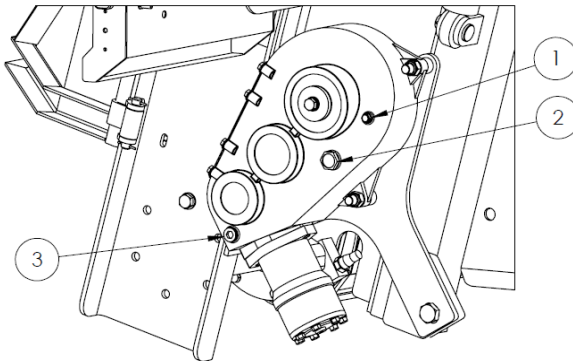

Figure 18 The oil-level check points of the floor-conveyor gearbox
To drain the oil from the gear unit (Figs. 18, 19), and unscrew the drain plugs (3). Fill the gearboxes with new oil via the oil filler (1) until oil becomes visible in the sight glass (2). The correct oil level is reached when the oil is visible in the middle of the sight glass.